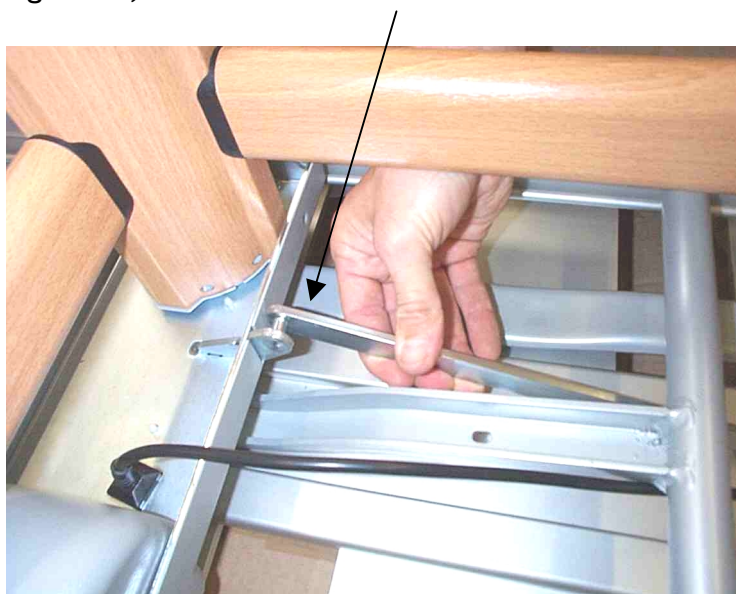

Figure 18
- At head-end, push the two mattress displacement levers into the pivot holes in the tongues on the fixing bar (see arrow). If necessary, move head-end of mattress-frame for access (see Figure 18).